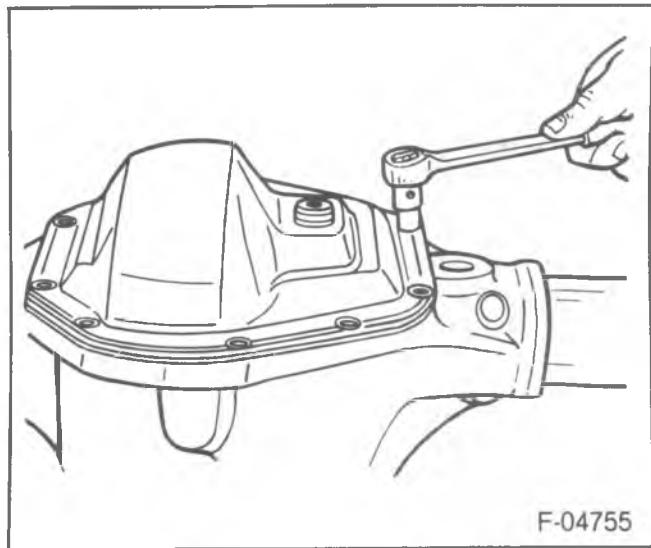

Figure 123—Installing the Axle Cover
2. Gasket (15) to the axle cover.
3. Axle cover (14) to the housing (figure 123).
- The cover bolts (17) to 47 N·m (35 ft. lbs.).